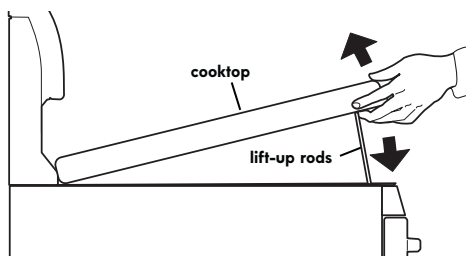

Figure 18: Raising and lowering the cooktop
2. Grasp the sides of the cooktop and then lift from the front (See Figure 18).